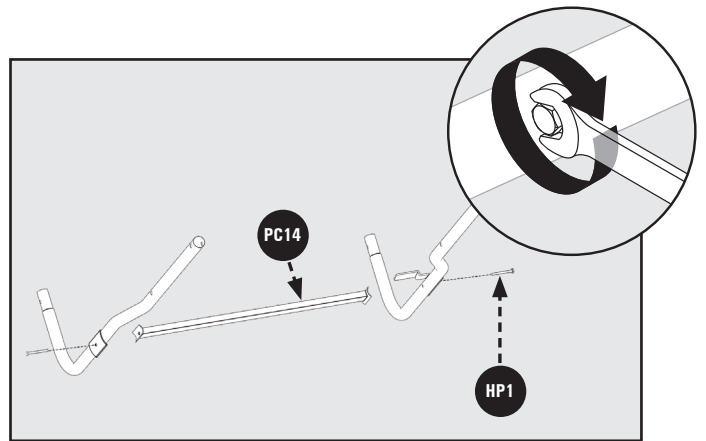

Figure 3
2. Connect the Support Spreader Bar (PC14) to Left Support Tube (PC9) and Right Support Tube (PC5) with M6 x 50mm Hex Bolts (HP1). Use a 13mm Combination Wrench to secure. See in Figure 3.